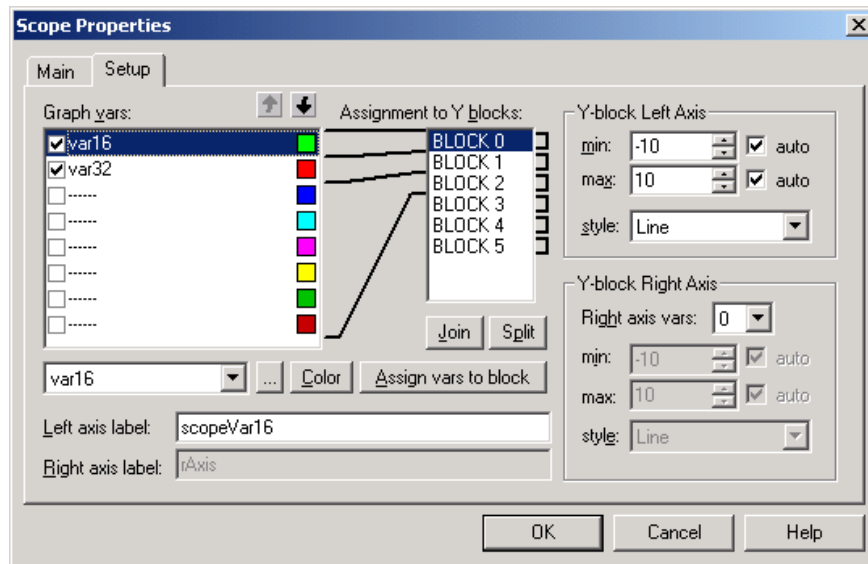

Figure 4-7. Scope Properties - Set-up Page
The *Setup* page (Figure 4-7) is used to assign variables to be displayed on the oscilloscope chart. Up to eight *Chart vars* (seven in X-Y mode) may be selected for display in the chart and assigned to a maximum of five Y-blocks. Select one of eight positions and browse for a variable in the drop-down list below the list to set or change a variable at this position. Select the first (empty) item in the drop-down list to clear the selected position in the list. Each chart variable is assigned to a Y block.
- *Assign vars to block* button = Assigns successive selected *Chart vars* to a Y block. Select the chart variables you want to group into one Y block and press this button. A simple assignment of two variables into two separate Y blocks is shown in Figure 4-7.